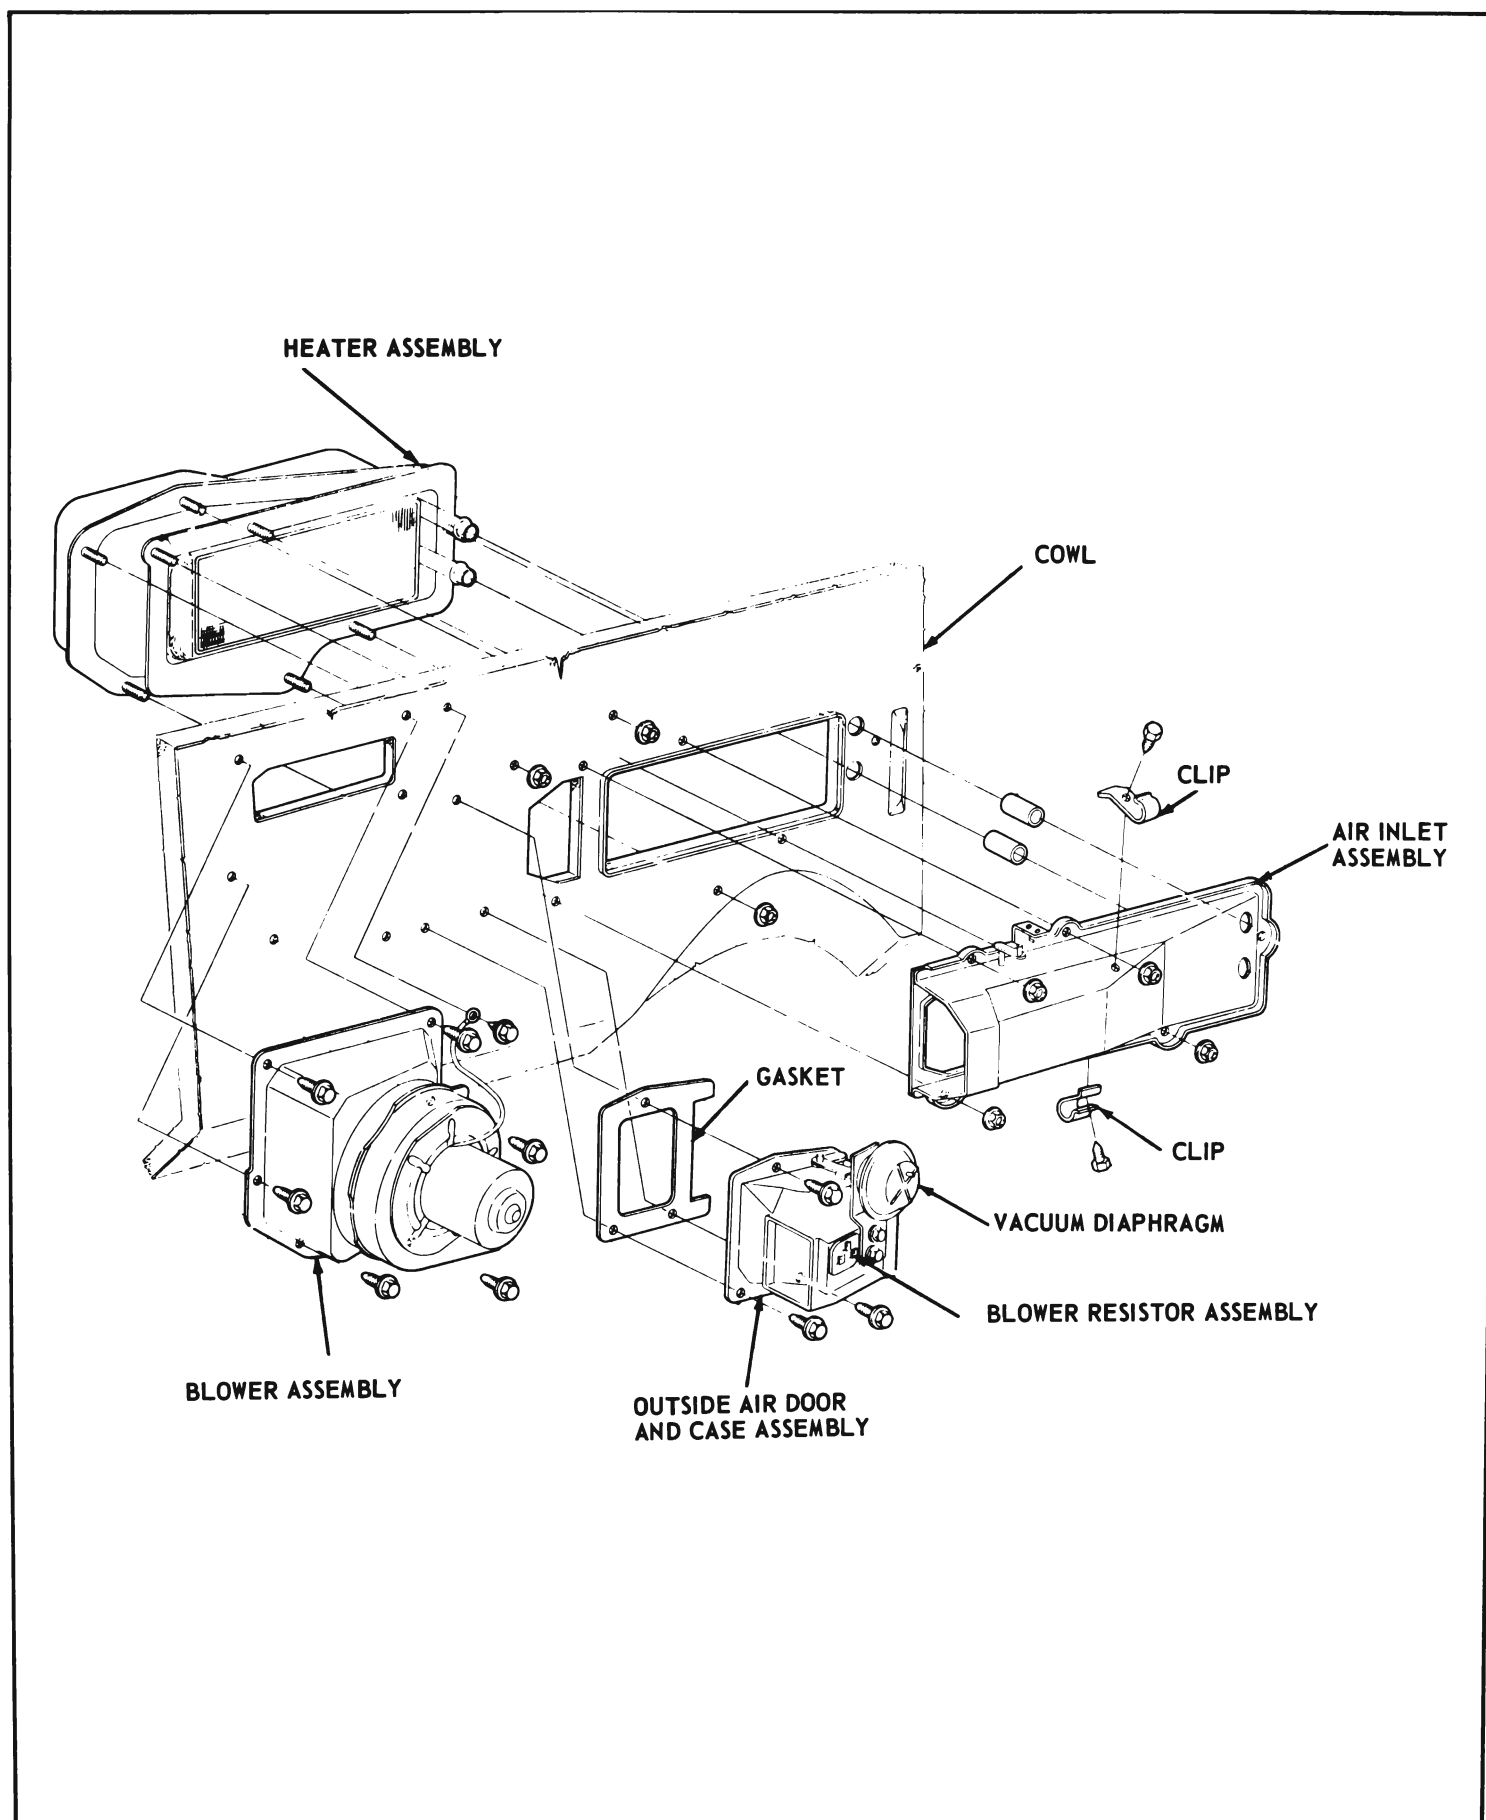
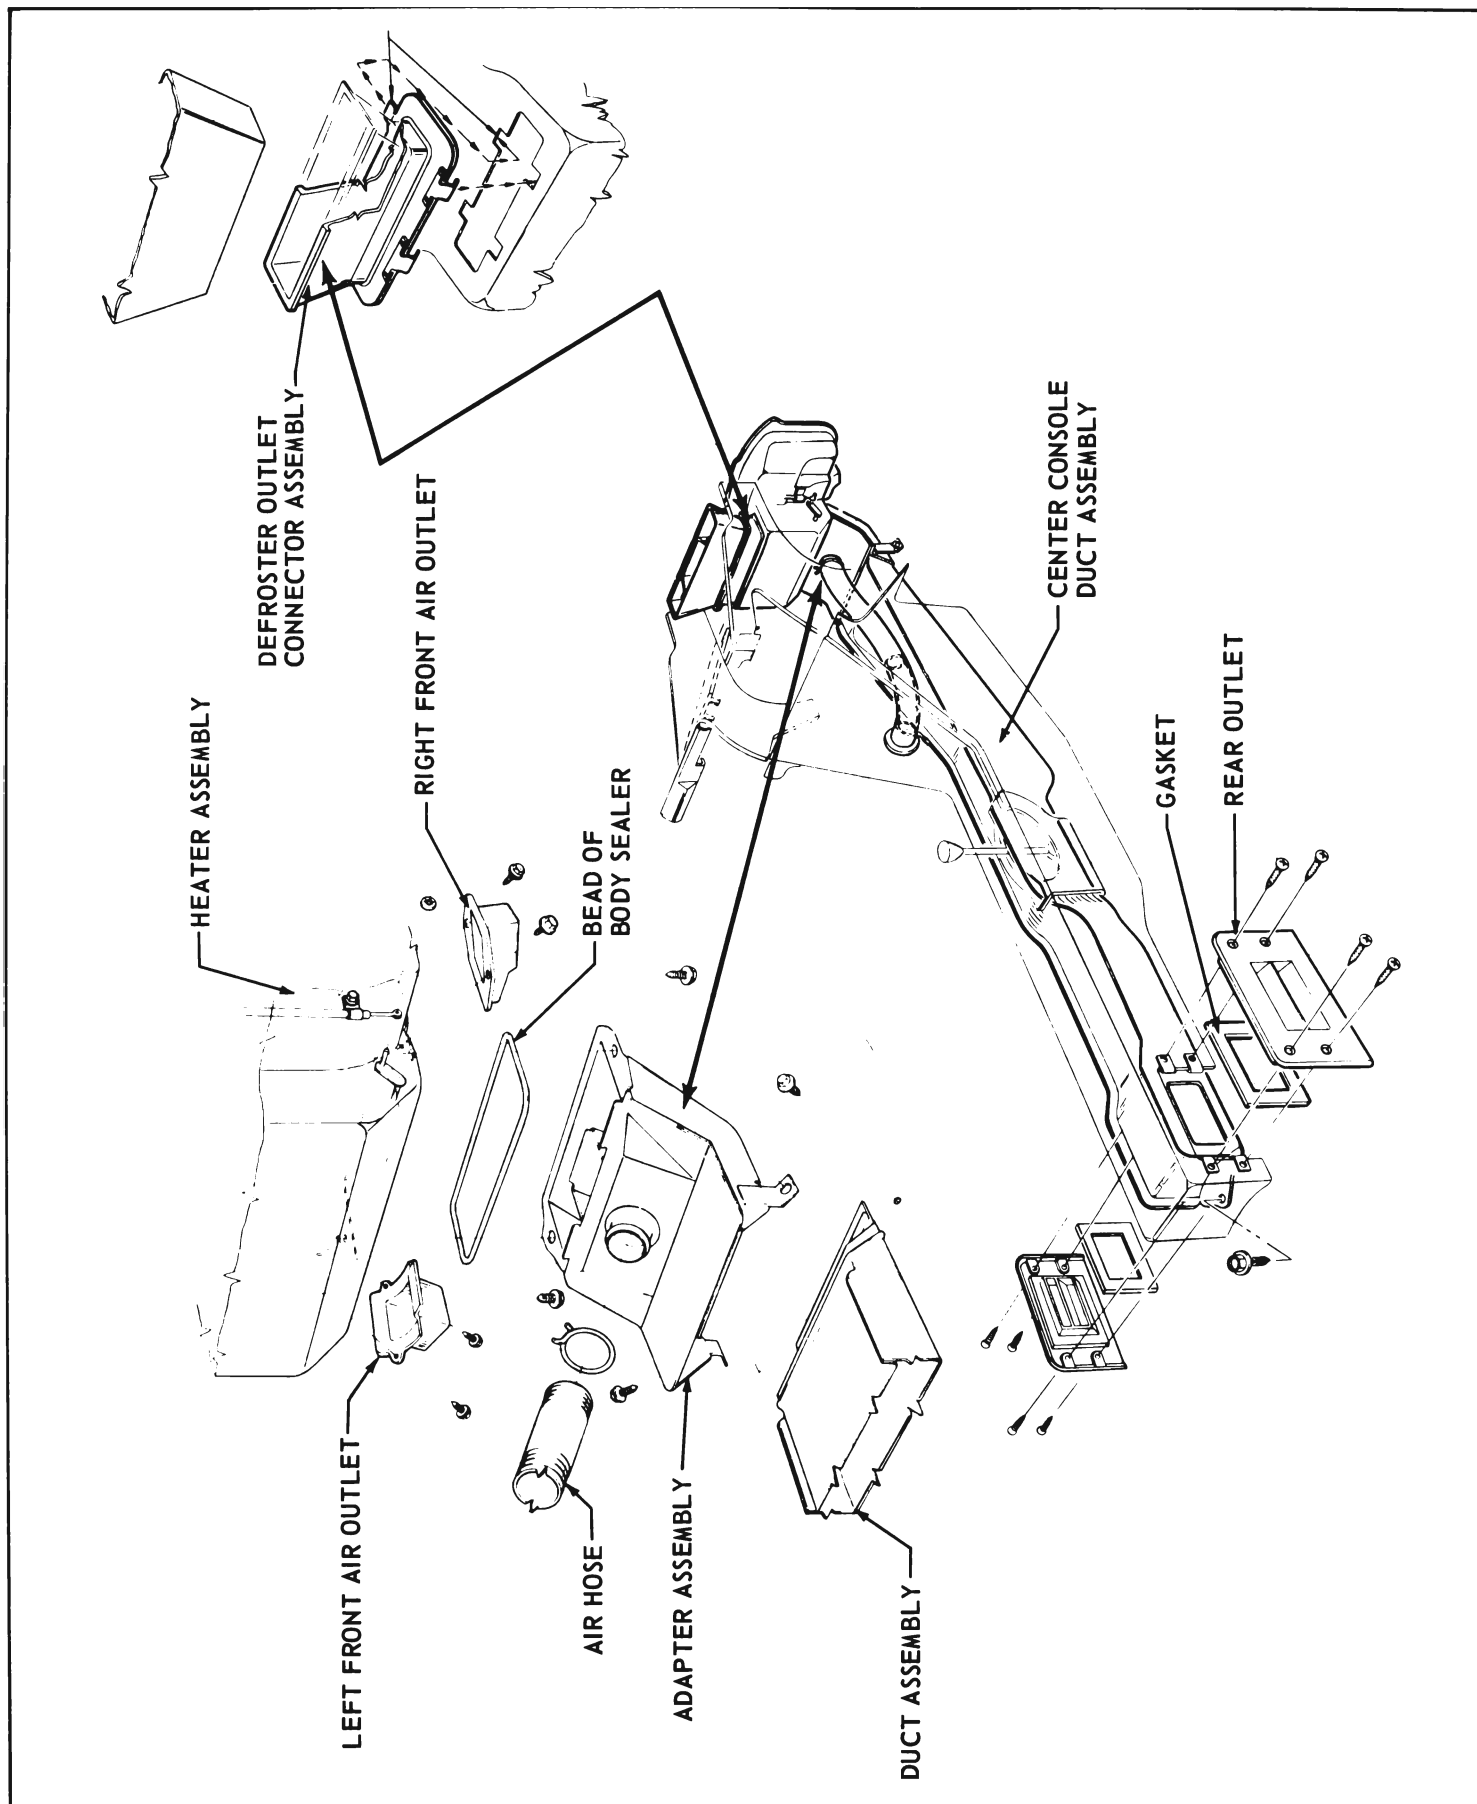
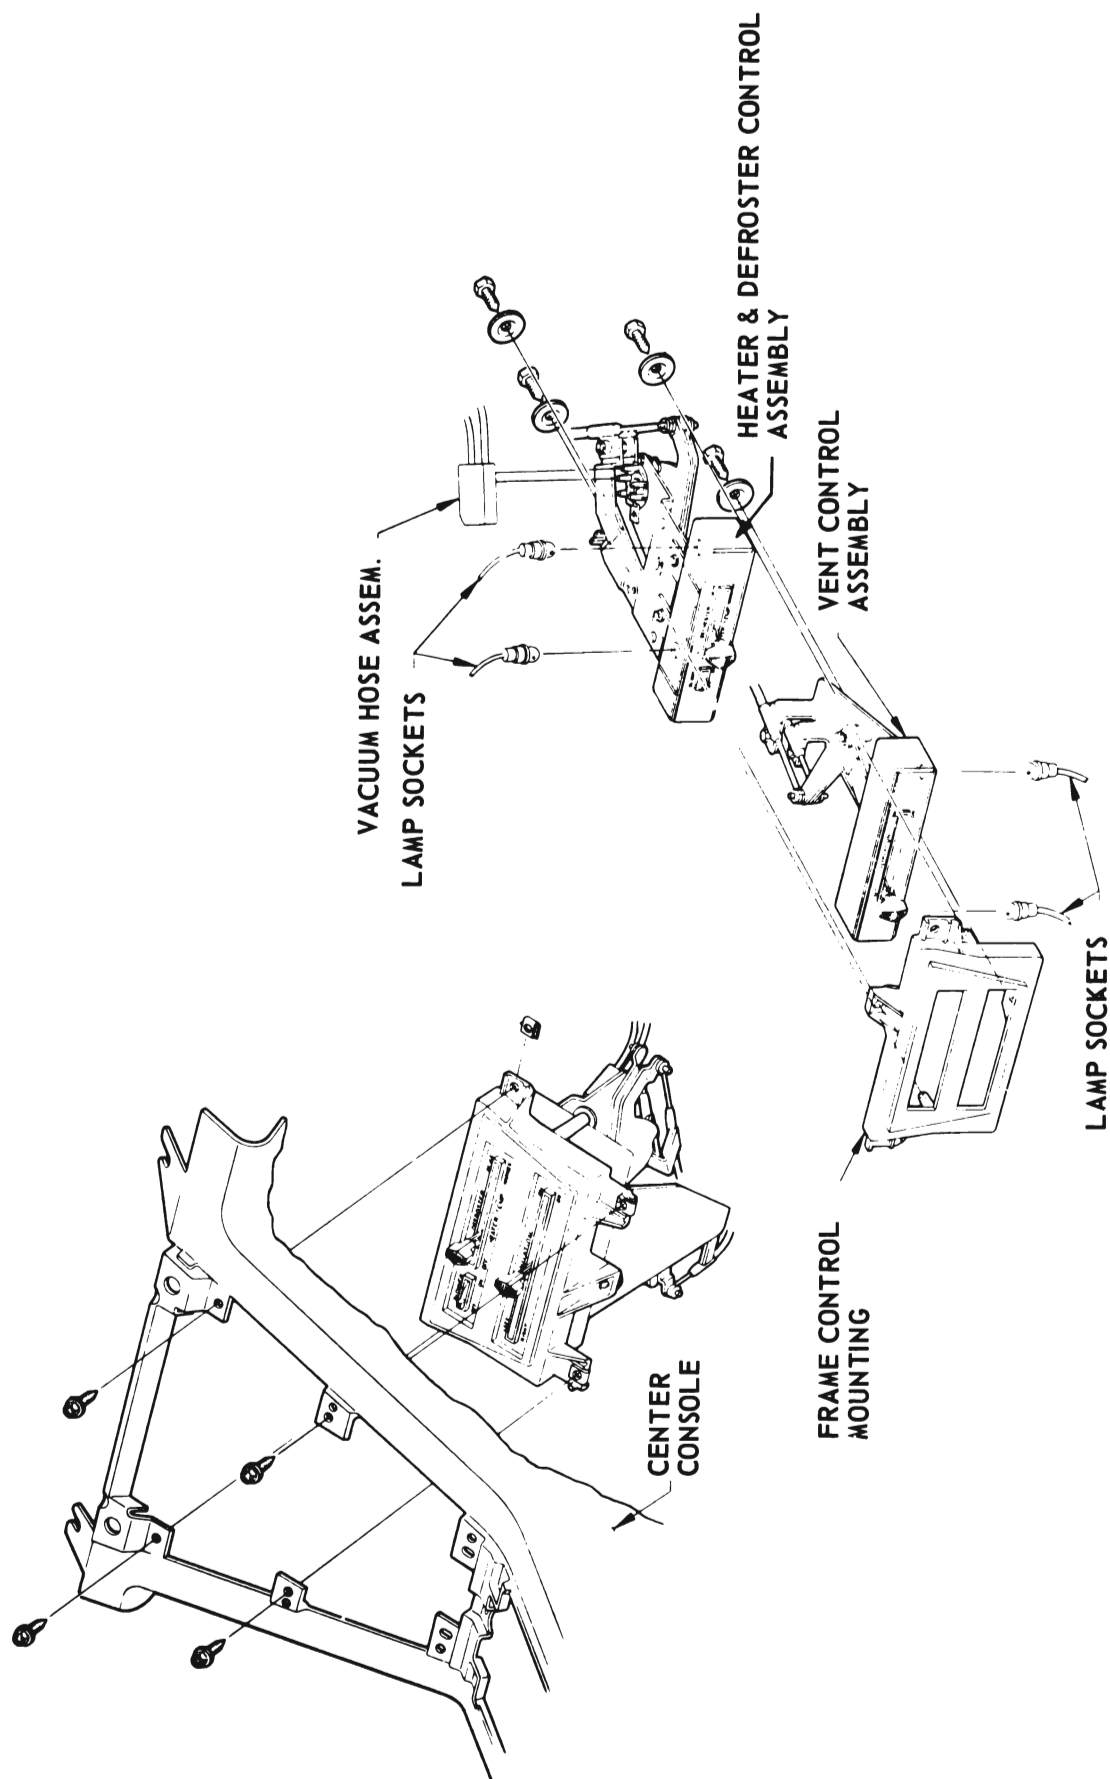
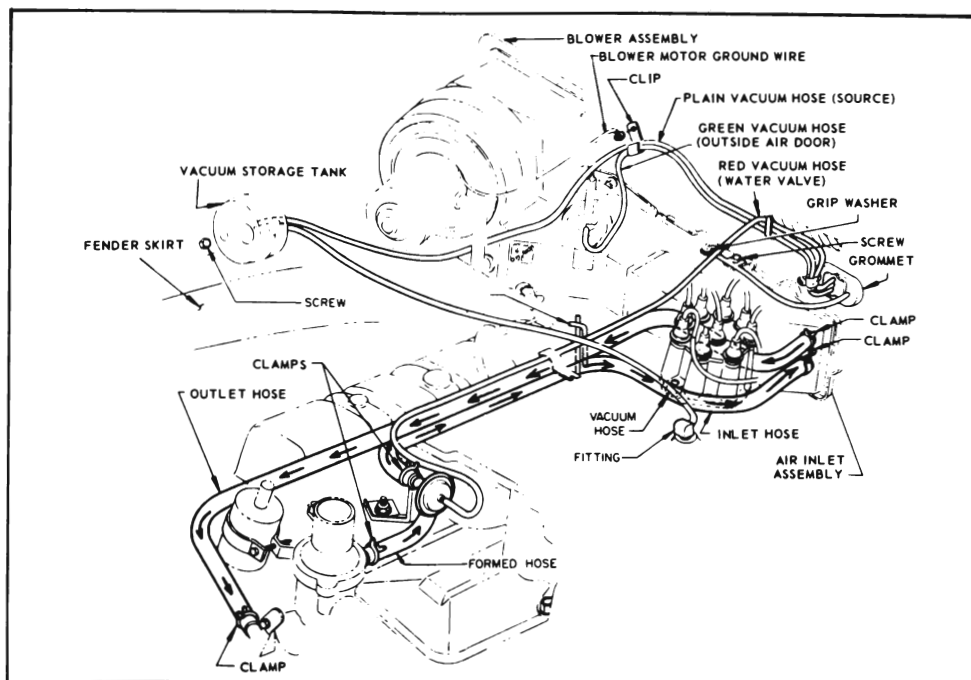

Figure 11-34—Heater System Installation - 49000 Series
Figure 11-35—Heater System Installation - 49000 Series
Figure 11-36—Heater and Defroster and Vent Control Assemblies Installation - 49000 Series
Figure 11-37—Vacuum Hose and Water Hose Routing - 49000 Series
The heater system for the 49000 Series cars is essentially similar to the system for 45000, 46000 and 49000 Series cars in so far as it is an air-mix type system, and the air flow is basically the same. The heater system has six major assemblies: (1) a blower assembly (see Figure 11-34) which houses the blower fan and motor; (2) an outside air door and case assembly which contains the outside air door, blower resistor assembly and the vacuum diaphragm to operate the door; (3) the air inlet assembly which houses the temperature door; (4) a heater assembly which contains the heater core; (5) console center duct and adapter assemblies (see Figure 11-35); (6) a heater and defroster control assembly which controls regulation of doors and blower motor (see Figure 11-36).
The flow of coolant thru the heater system is as shown in Figure 11-37. A vacuum operated water valve shuts off flow of coolant thru heater core when system is inoperative.
To remove heater core it is necessary to take out heater assembly. Removal of components of heater system will be obvious upon inspection (see Figures 11-34, 11-35 and 11-36).
<p>2. Insufficient heating.</p> <p>3. Inadequate defrosting.</p> <p>49000 Series</p> <p>4. Blower motor inoperative.</p> <p>5. Insufficient heating.</p> <p>6. Insufficient defrosting.</p>	<p>2a. Check operation of outside a.r door (ref. subpar. 11-7, "b"), and temperature door, to insure full opening and closing.</p> <p>2b. Check for air leaks around sealing edges of components.</p> <p>2c. Check for insufficient coolant.</p> <p>3a. Check operation of outside air door (ref. subpar. 11-7, "a" or "b"), temperature door or defroster door.</p> <p>3b. Also refer to above corrections 2b and 2c.</p> <p>4a. Check fuse.</p> <p>4b. Check for defective heater blower switches (2) located on heater-defroster control assembly.</p> <p>4c. Check blower motor ground wire (see Figure 11-37).</p> <p>4d. Check for defective blower resistor assembly (see Figure 11-34).</p> <p>4e. Check for loose connections or broken wires.</p> <p>5a. Check for vacuum on diaphragm of outside air door (see Figure 11-37). Check operation of temperature control cable.</p> <p>5b. Also refer to above corrections 2b and 2c.</p> <p>6a. Refer to correction 5a.</p> <p>6b. Check operation of defroster door (ref. subpar. 11-8 "a").</p>